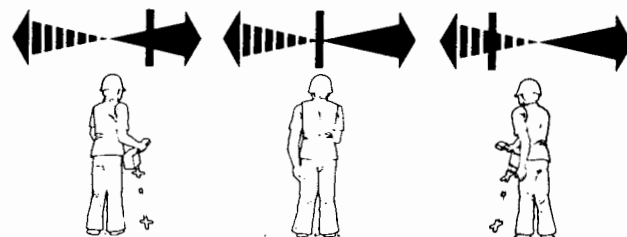

Figure 3-3: Checkout of Receiver Directional Meter
8. Point the Receiver to the left and right of the Transmitter center line. The needle should follow the change in direction (solid arrow and continuous tone when you move right, broken arrow and broken tone when you move left). See Figure 3-3.